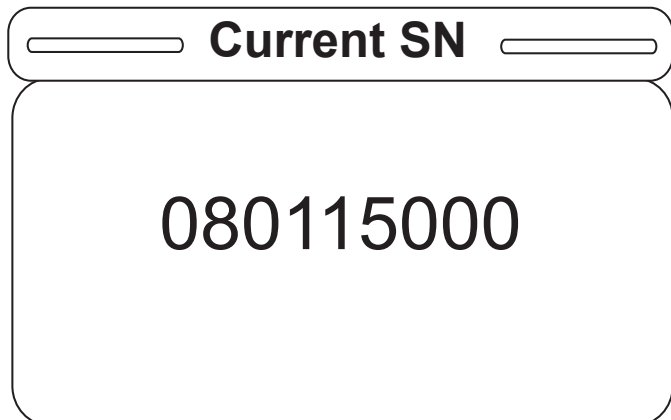

Figure S-26
24. Once a serial number is saved and the user enters the Current SN item, the screen in Figure S-26 will be displayed. The entered serial number will be displayed until the user hits the "Exit" button on the footboard panel.